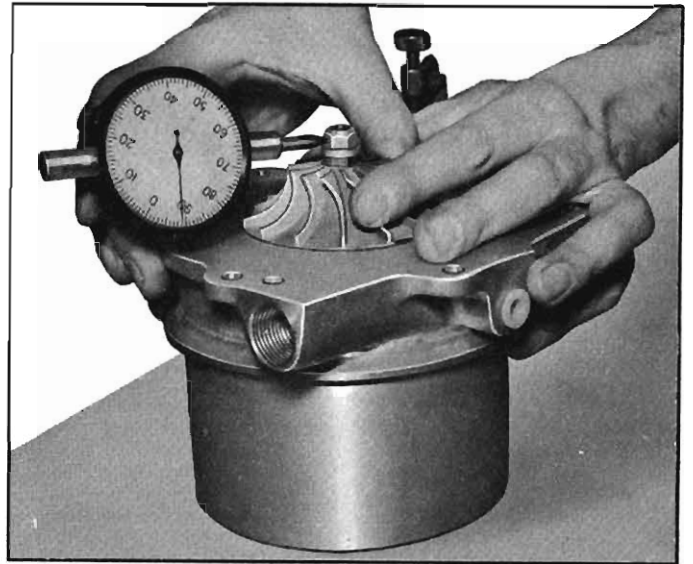

Fig. 9-34—Gauging Turbine Shaft Radial Play
- a. With the assembly on the support ring (Tool J-21004), position the dial indicator so its point is resting on a flat of the impeller nut (fig. 9-34) and needle set at zero.